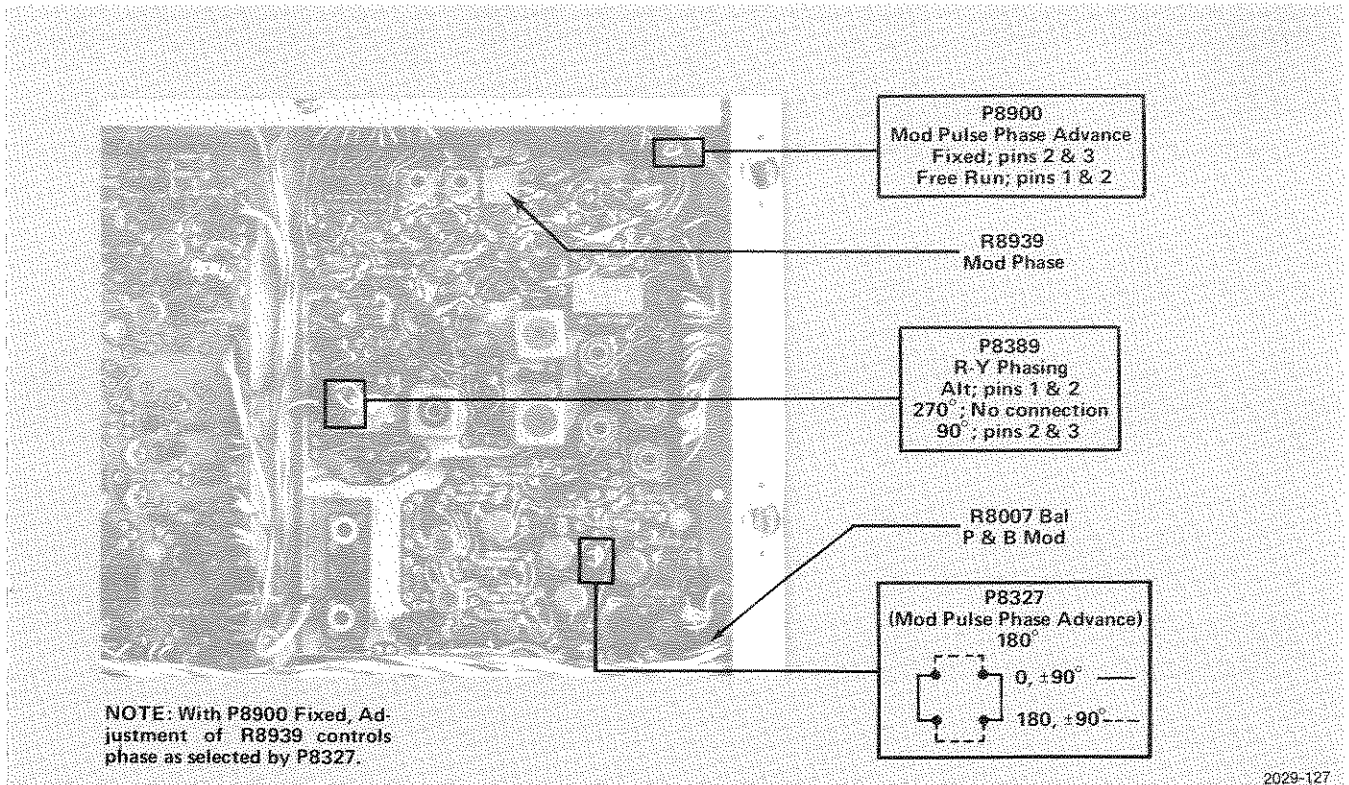
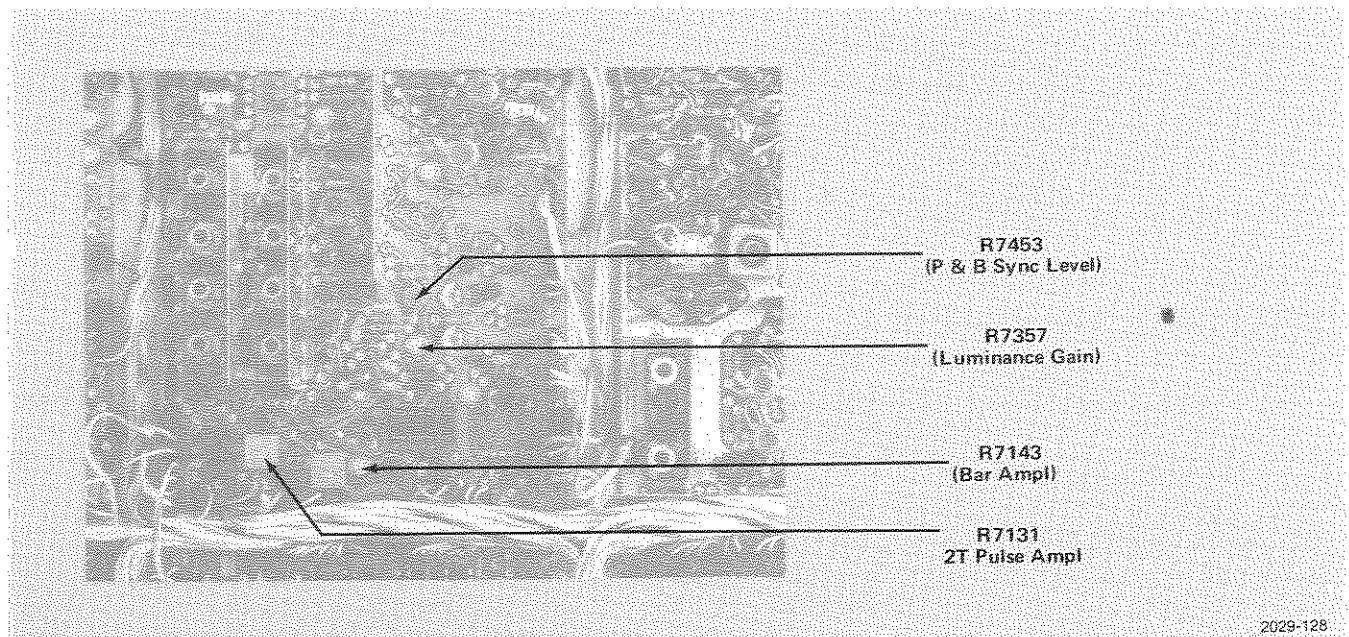

Fig. 1-24. 149A chrominance adjustments.
Fig. 1-25. Output Amplifier circuit board location of adjustments.
2. Adjust R8109 (Sin² Chroma Gain), see Fig. 1-24, and R7357 (Luminance Gain), see Fig. 1-25, for (1) a peak modulation amplitude of 714 mV (100 IRE) and (2) the best flat bottom on the pulse.
3. Adjust R7453 (P & B Sync Level), see Fig. 1-25, until the horizontal and vertical blanking levels are aligned.
2. Adjust R7131 (2T Pulse Amplitude), see Fig. 1-25, for a peak pulse amplitude of 714 mV (100 IRE).
7. Adjust R8630 (Burst Amplitude), see Fig. 1-25, for a burst amplitude of 285.6 mV (40 IRE) peak-to-peak.
6. Adjust R8109 (Sin² Chroma Gain), see Fig. 1-24, until the peak of chrominance within the modulated pulse is at 100 IRE and the bottom portion of chrominance within the modulated pulse is flat at 10 IRE.
As factory-connected, the 147A or 149A displays the 2T Pulse. To display the T Pulse in place of the 2T Pulse, (1) change the connector on pins 1 and 2 of P7131 (see Fig. 1-25) to pins 2 and 3, and (2) change the connector on pins 5 and 6 of P7321 to pins 4 and 5.
By changing the connector on pins 1 and 2 of P8900, see Fig. 1-24, to pins 2 and 3, the phase of the Full Field Modulated Sine-Squared Pulse will be fixed. This is shown in Fig. 1-26B.
Advance 180°. As discussed above, it is possible to obtain Phase Advance of the Modulated Sine-Squared Pulse during VITS. If needed, the phase can be changed 180° from that obtained with adjustment of R8939 by rotating the connector on P8327 (see Fig. 1-24) 90°. This provides a 360° control range of the VITS phase.
2. Adjust R8007 (P and B Mod Ball), see Fig. 1-24, for minimum modulation on the blanking level.
As factory-connected, the color bar R-Y phase is locked to 90° (normal NTSC operation). For test purposes, the R-Y phase can be locked to 270° by removing the connector on P8389 (see Fig. 1-24). For quadrature-phase testing, the R-Y phase can be alternated between 90° and 270° by connecting pins 1 and 2 of P8389.